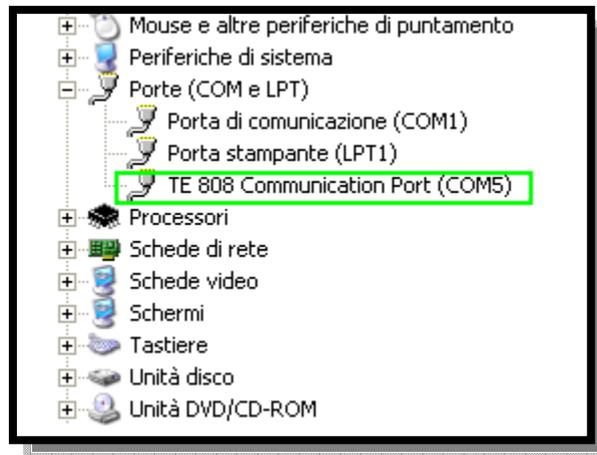

fig. 5
- Under "Ports COM & LPT" you can see the ports connected, located the serial com port "TE808 Communication Port" (see Figure 5).